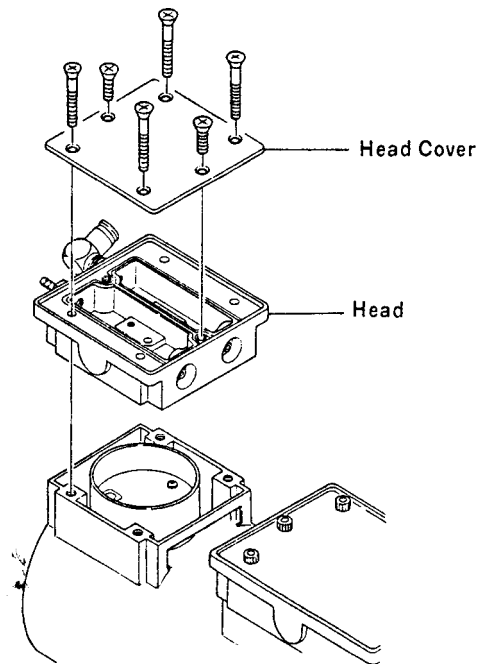

Figure 6-2-3-9 Removing Compressor Head
- (2) Remove the compressor head with the head cover (see Figure 6-2-3-9).
- (3) Locate two leaf valves on the head (see Figures 6-2-3-10 and 6-2-3-11).
- (4) Check the leaf valves after removing the valve retainers. If any dirt is presented on the valve, wipe it with gauze dampened with isopropyl-alcohol. If any damage is found, replace it.